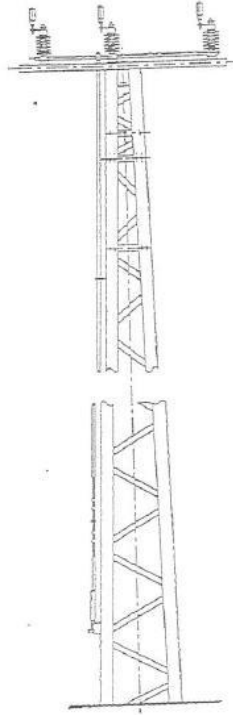

Fig .1
1. **Top Orientation:** The Air Switch will be installed on the top of the lattice pole with horizontal orientation, as Fig.1
Mounting Height	See the attached Fig.1 & 2